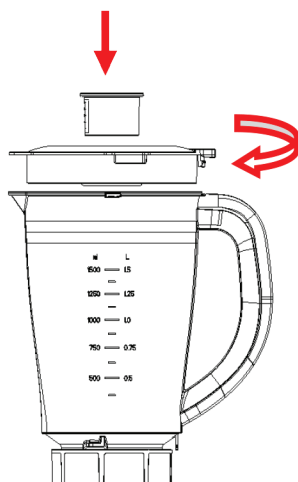

Fig.4
- 2) Reposition the jar assembly with its opening upwards. Wrap the seal ring 1 around the lid bottom and put the lid onto the jar assembly. Place the measure cup exactly into the lid by fitting the small projection on the both sides of the cup into the slots of the lid and turning the jar cover clockwise until tight. (See Fig.4)